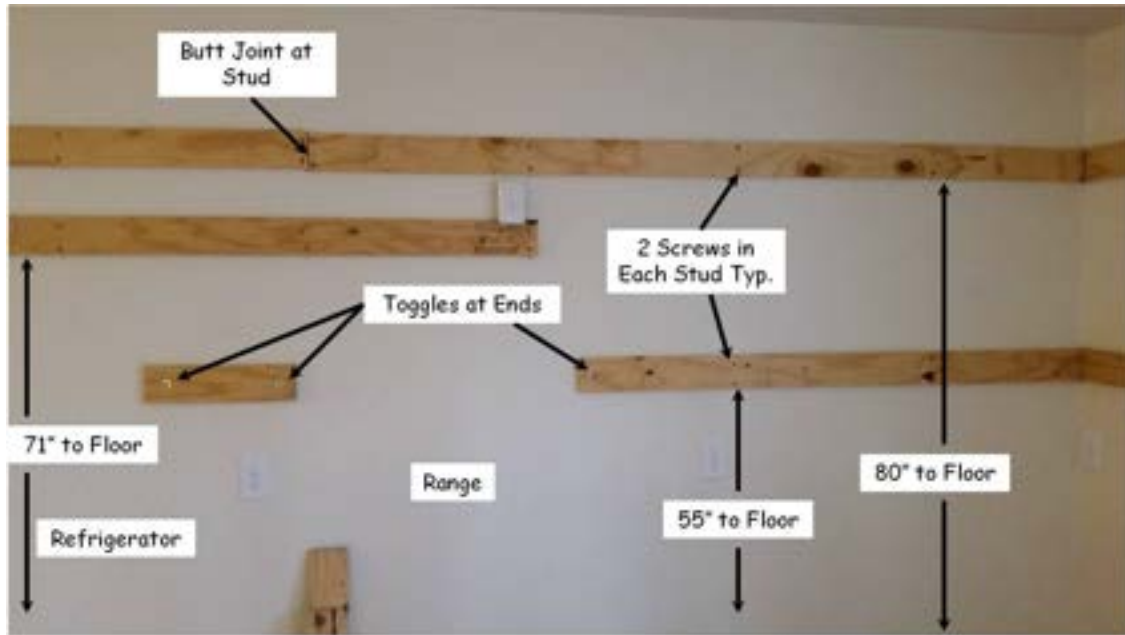

Figure 17-1. Kitchen Cabinet Support Strips.
1. When blocking is not available, the upper kitchen cabinets will be installed by mounting them to 2-7/8" wide strips of 3/4" thick plywood. This installation method is used because the screws holding up the cabinets go into the continuous plywood, rather than having to precisely locate the cabinet screws to hit a stud while holding them in place. The cabinets are 30" tall, with the top of the cabinet 84" and the bottom 54" from the floor. The top plywood support strip will be located about 1" down from the top, and the bottom of the lower strip about 1" up from the bottom of the cabinets. The following steps refer to Figure 17-1.
NOTE: The 71" dimension in Figure 17-1 for the bottom strip location for cabinets above the stove and refrigerator is for 14" cabinets. For other size cabinets, adjust the bottom strip position so the bottom of strip will be 1" above the bottom of the cabinet.